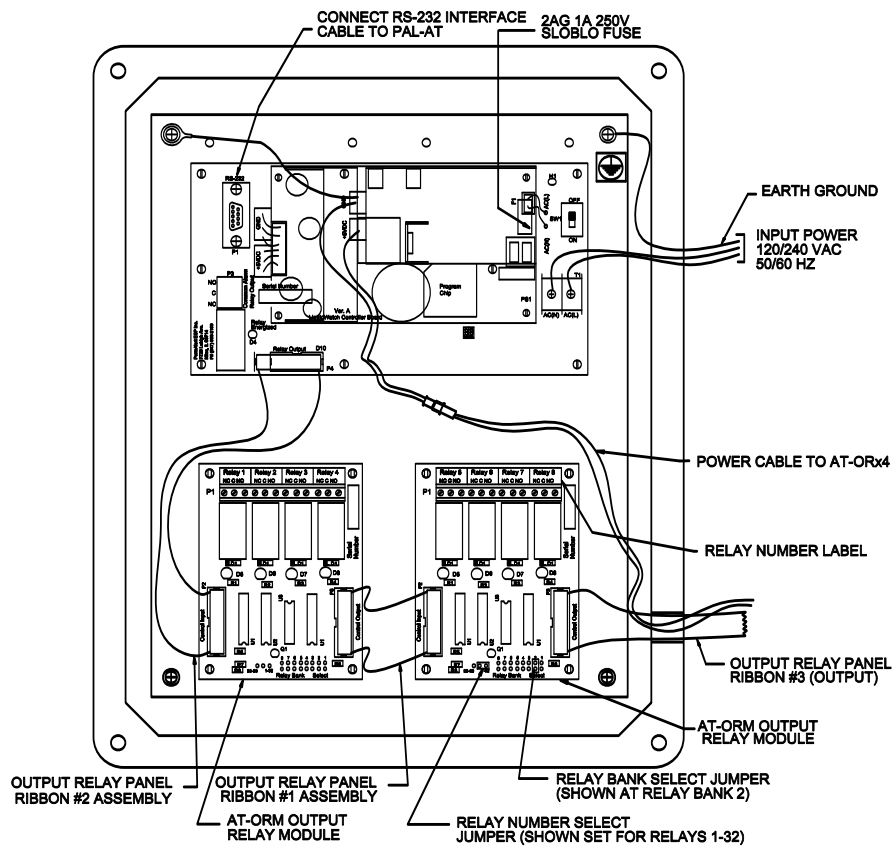

Figure 6.1A - AT-ORC Output Relay Controller Wiring Diagram
4. Connect the AT-ORC to an isolated (circuit breaker protected) 120/240 VAC 50/60 Hz circuit (see Figure 6.1A).
5. Each AT-ORx4/AT-ORx1 Output Relay Panel includes a 48" power cable. The power cable should be connected between the connector on the +5VDC pigtail on the main controller board and connector on the "Y" pigtail on the AT-RM in the first AT-ORx4/AT-ORx1 panel (see Figures 6.1A, 6.1B and 6.1C). If more than 1 AT-ORx4/ AT-ORx1 is installed, the power cable is installed from the "Y" of the first panel to the "Y" of the next one, etc.
6. Each AT-ORx4 Output Relay Panel also includes 4 ribbon cables. All ribbons will only be used if 4 AT-RMs are installed (save extra ribbons for later expansion in the panels). There are two #1 ribbons that are each 2" long and connect plug P2 to plug P3 on adjacent AT-RMs. A 10" ribbon, ribbon #2, is used inside the panel to connect P2 and P3 as shown. The 36" ribbon, ribbon #3, runs from P4 on the AT-ORC to P2 on the first Output Relay Module in the first AT-ORx1/AT-ORx4. If additional AT-ORx1/AT-ORx4 Output Relay Panels are installed, the 36" ribbon connects from P3 on the previous panel to P2 on the first AT-RM in the present panel (see Figures 6.1A, 6.1B and 6.1C).
Each added AT-RM relay module must be configured before operating the system. Two jumpers are set to select the numbers assigned to the 4 relays (1-4, 5-8, etc.). Refer to Figure 6.1A and locate the jumpers in the lower right corner. The 60 relays are organized in 15 banks of 4. The first AT-RM is set to bank 1 and addresses relays 1 to 4. The Relay Number Select Jumper sets the module to address relays from 1-32 or 33-60. The Relay Bank Select Jumper selects which group of 4 numbers to assign (5-8, 9-12, etc.). Labels are supplied to renumber the relays. They are applied over the relay label that is printed on the Relay Module circuit board (see Figures 6.1A, 6.1B or 6.1C). Refer to Table 6.1 for jumper settings.
The AT-ORC Output Relay Controller is provided with an RS-232 communications port and an interface cable. The 9 pin male D connector on the interface cable connects to the Output Relay Controller RS-232 port (see Figure 6.1A). The other end of the cable connects to the terminal strip in the PAL-AT as follows: